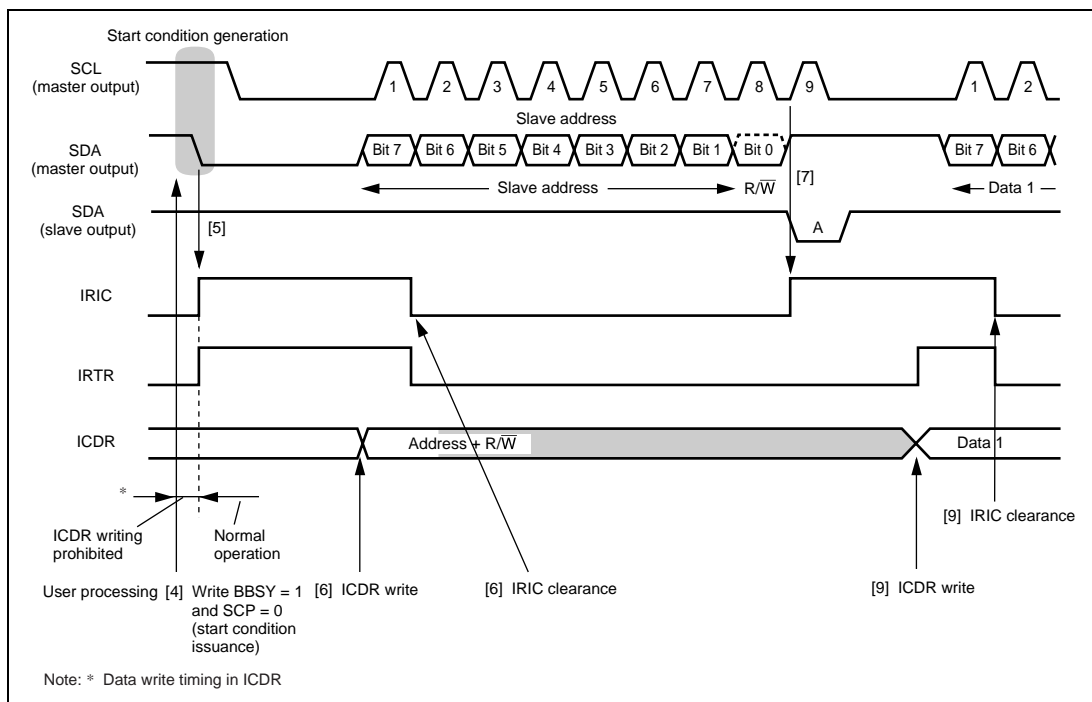

Figure 14.6 Master Transmit Mode Operation Timing Example (MLS = WAIT = 0)
6. Write the data (slave address + R/\overline{W}) to ICDR. With the I²C bus format (when the FS bit in SAR or the FSX bit in SARX is 0), the first frame data following the start condition indicates the 7-bit slave address and transmit/receive direction. As indicating the end of the transfer, and so the IRIC flag is cleared to 0. After writing ICDR, clear IRIC continuously not to execute other interrupt handling routine. If one frame of data has been transmitted before the IRIC clearing, it can not be determine the end of transmission. The master device sequentially sends the transmission clock and the data written to ICDR using the timing shown in figure 14.6. The selected slave device (i.e. the slave device with the matching slave address) drives SDA low at the 9th transmit clock pulse and returns an acknowledge signal.